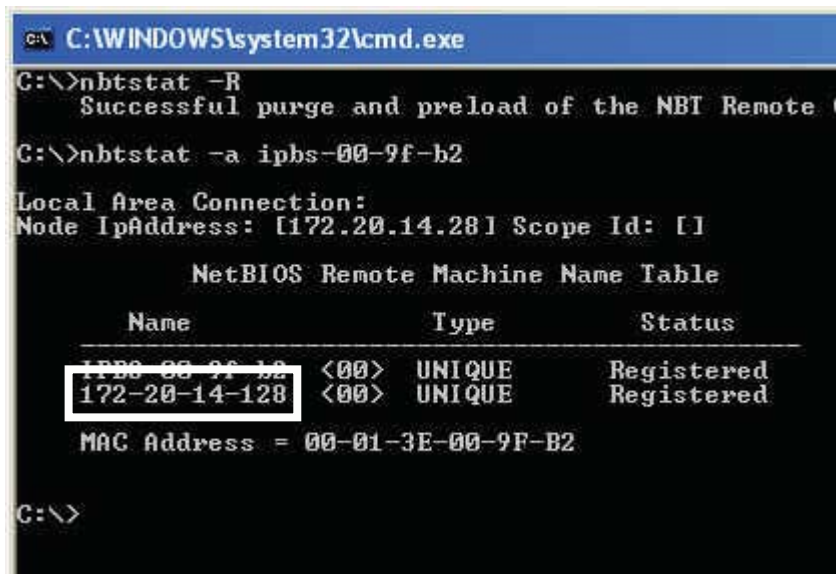

Figure 19. Determine the IPBS IP address
- 3 The IP address is displayed in the command window, see the white frame in figure 19.